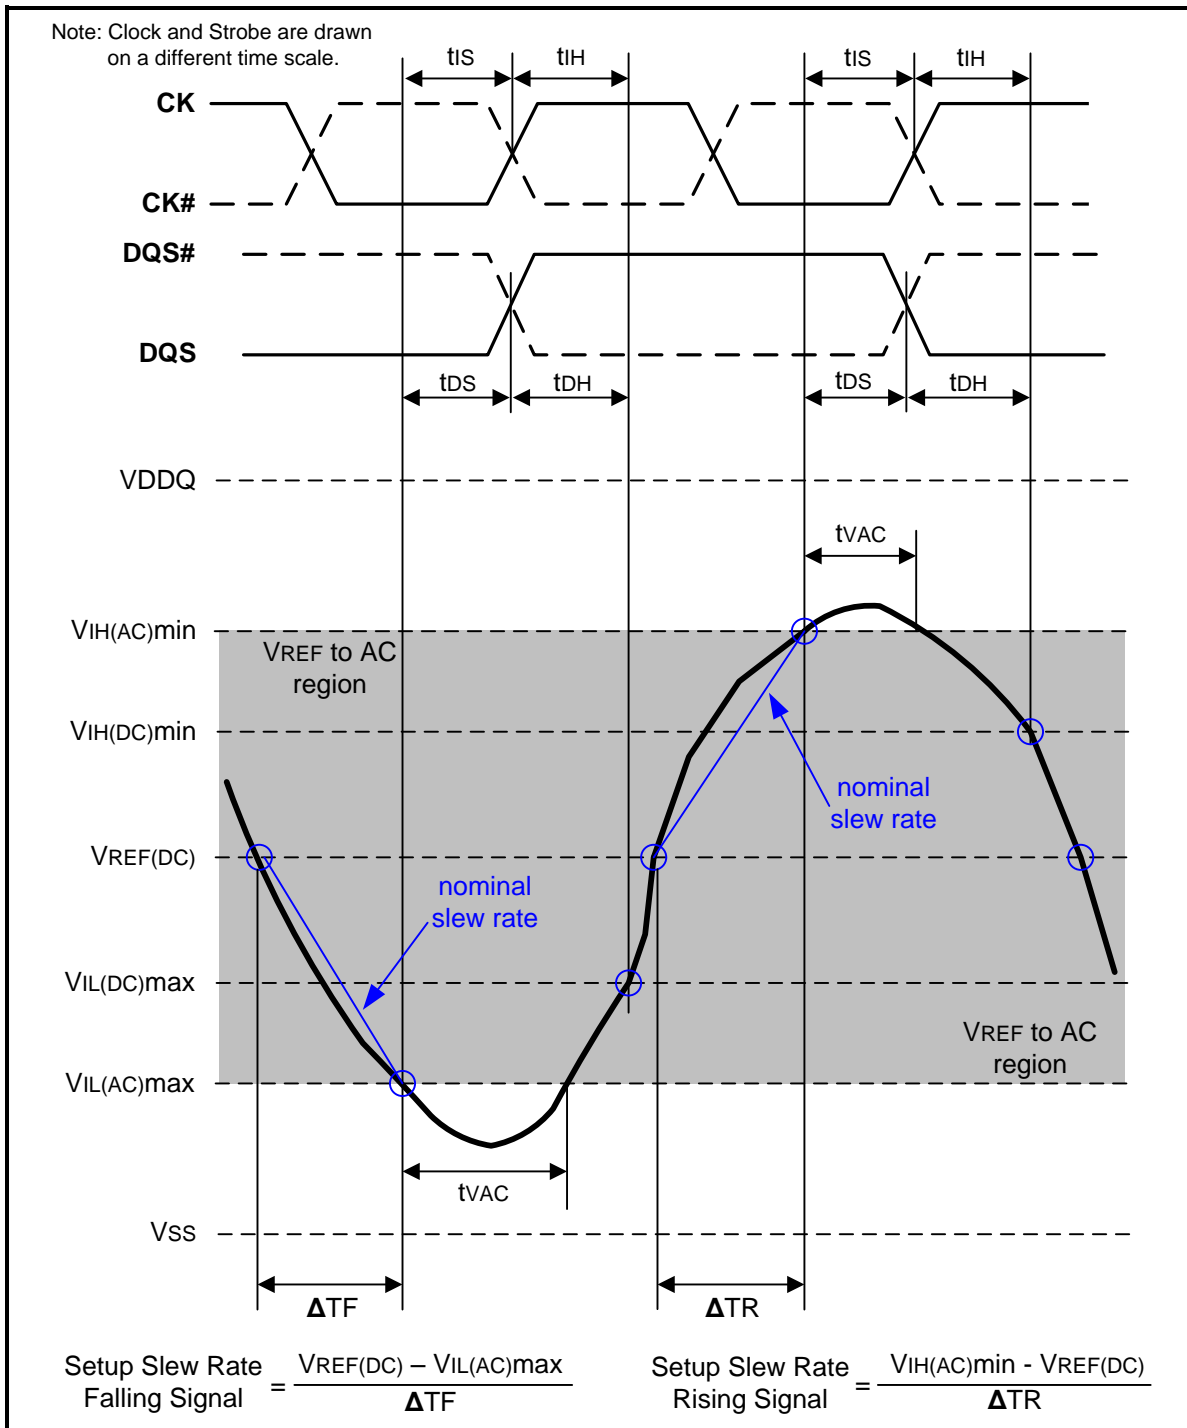

Figure 107 – Illustration of nominal slew rate and t_{VAC} for setup time t_{DS} (for DQ with respect to strobe) and t_{IS} (for ADD/CMD with respect to clock)
Setup (t_{IS}) nominal slew rate for a rising signal is defined as the slew rate between the last crossing of $V_{REF}(\text{DC})$ and the first crossing of $V_{IH}(\text{AC})_{\text{min}}$. Setup (t_{IS}) nominal slew rate for a falling signal is defined as the slew rate between the last crossing of $V_{REF}(\text{DC})$ and the first crossing of $V_{IL}(\text{AC})_{\text{max}}$. If the actual signal is always earlier than the nominal slew rate line between shaded 'VREF(DC) to AC region', use nominal slew rate for derating value (see Figure 107). If the actual signal is later than the nominal slew rate line anywhere between shaded 'VREF(DC) to AC region', the slew rate of a tangent line to the actual signal from the AC level to $V_{REF}(\text{DC})$ level is used for derating value (see Figure 109).
Setup (tDS) nominal slew rate for a rising signal is defined as the slew rate between the last crossing of VREF(DC) and the first crossing of VIH(AC)min. Setup (tDS) nominal slew rate for a falling signal is defined as the slew rate between the last crossing of VREF(DC) and the first crossing of VIL(AC)max (see Figure 107). If the actual signal is always earlier than the nominal slew rate line between shaded 'VREF(DC) to AC region', use nominal slew rate for derating value. If the actual signal is later than the nominal slew rate line anywhere between shaded 'VREF(DC) to AC region', the slew rate of a tangent line to the actual signal from the AC level to VREF(DC) level is used for derating value (see Figure 109).